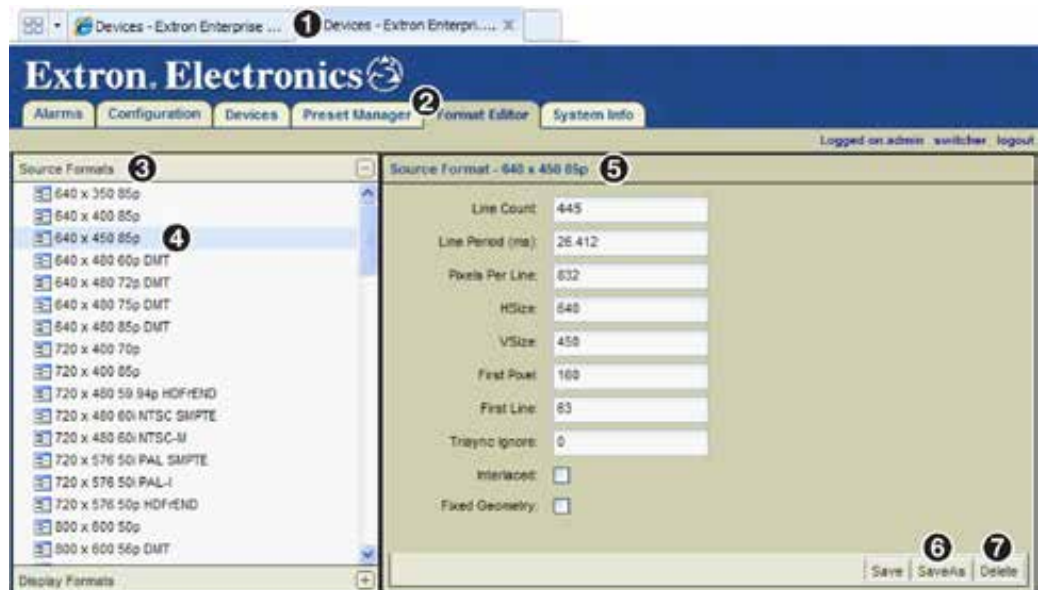

Figure 150. Source Resolution Properties
To delete a custom resolution format, select a resolution from the **Source Format** panel (see **figure 150** on the next page) and click **Delete** (❷).
1. Click the **right tab** (see **figure 150**, ❶).
2. Click the **Format Editor** tab (❷).